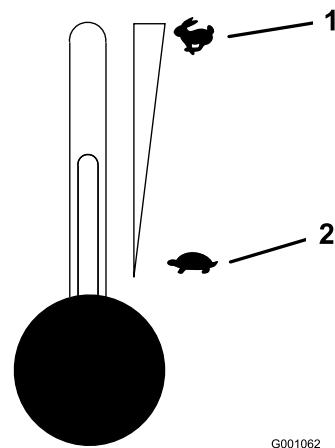

Figure 12
5. Move the throttle control midway between the Slow and Fast positions (Figure 12).
2. Move the throttle lever midway between the Slow and Fast positions (Figure 12).